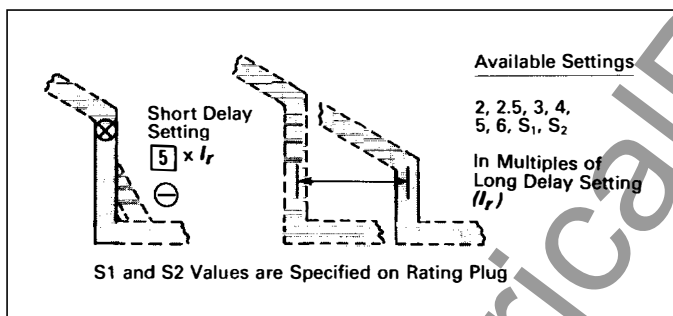

Fig. 4.3 Short Delay Current Settings
There are eight (8) available Short Delay Current Settings, as illustrated in Fig. 4.3. Six settings are in the range from 2 to 6 times  $I_r$  and the other two settings are "S1" or "S2" times  $I_r$ . (REMEMBER:  $I_r$  is the Long Delay Current Setting). The values that "S1" and "S2" have depend upon the type of circuit breaker, and are specified both on the rating plug label (see Fig. 6), and on the applicable Time-Current Curves referenced in Section 9.0.